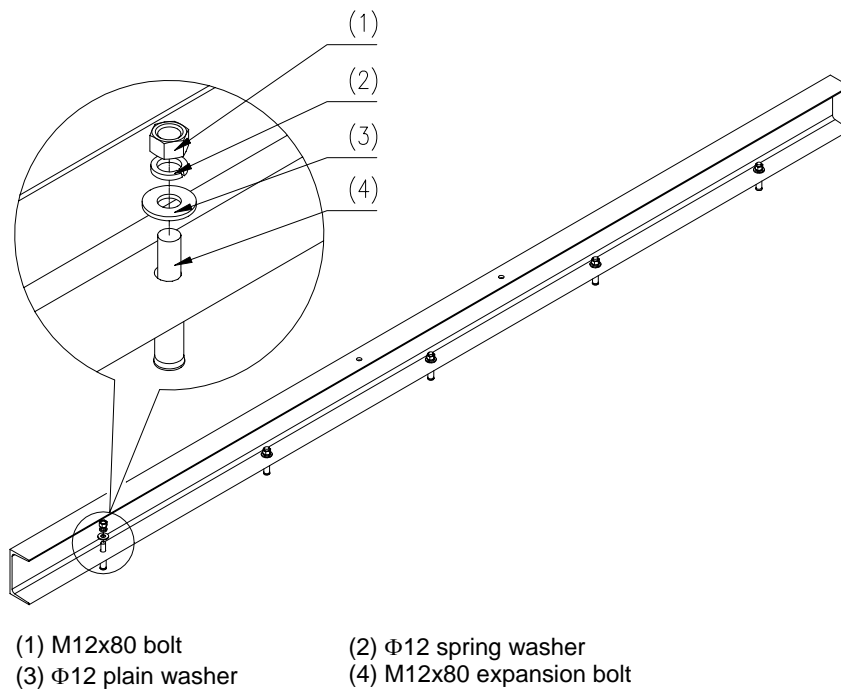

Figure 2-18 Installing the U-bar support
- 3) Fasten the nuts one by one, as shown in Figure 2-18.